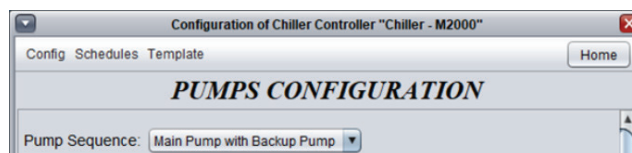

Figure 20 - Pumps Configuration Screen
- **Single Pump:** The single pump sequence simply activates a pump based on the Activation conditions below. Its purpose is to circulate water through the chillers, but not necessarily through the building itself (which can be done by another pump or loop). In this sequence, proof of operation of the pump is required before any chiller stages can activate. Figure 20 - Pumps Configuration Screen